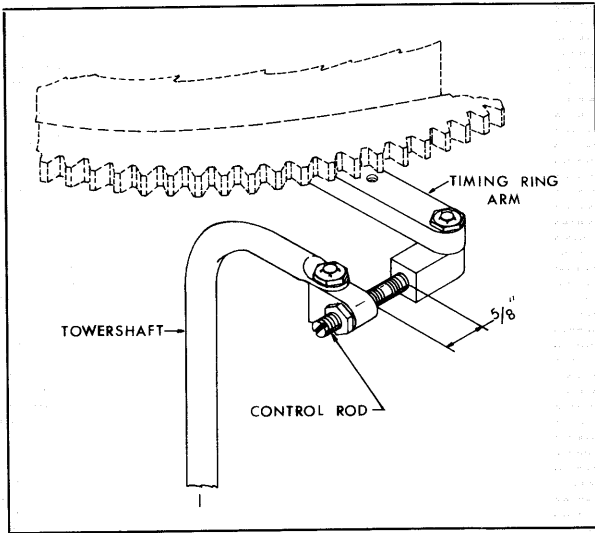

Figure 3 - Adjusting Control Rod
- H. Rough set control rod to 5/8" as shown in figure 3.
- J. Start engine and accelerate to WOT. (Minimum 4500 RPM's). With timing light connected to top cylinder spark plug lead wires, observe alignment of timing marks (32° mark on decal to index mark on timing pointer). If marks are not aligned, retard engine and shut off engine. Adjust link between towershaft and timing ring under flywheel until 32° mark on decal lines up with index mark on timing pointer. To advance timing, turn link counter-clockwise (as viewed from front of engine). To retard timing, turn link clockwise. See figure 3.